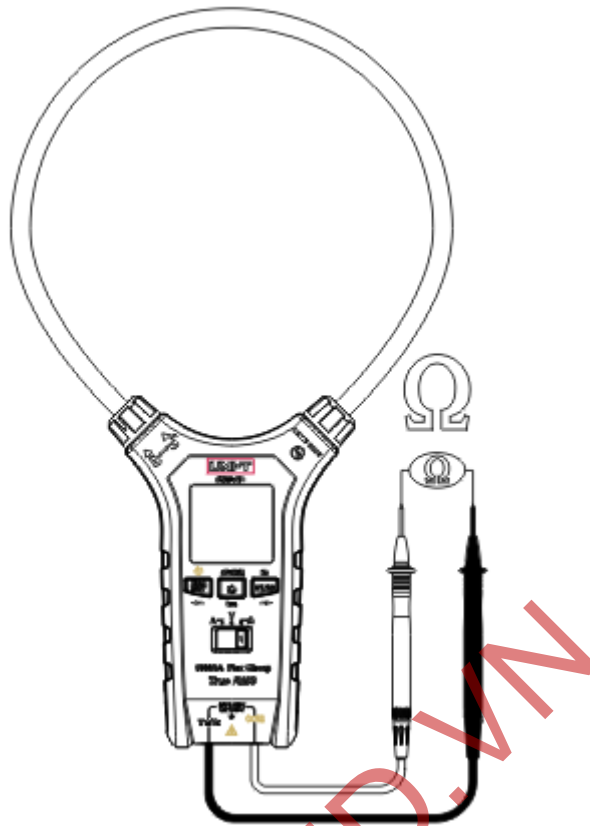

Figure 5
3. Continuity and resistance measurement (Figure 5)